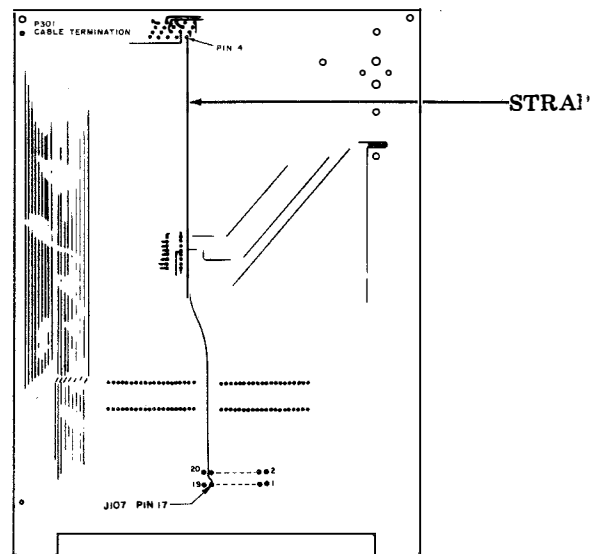

Fig. 4-Logic Card Strap
2.15 The 21" wire strap (cut to 11" length) is soldered between 2 points as shown on the bottom of the 410740 circuit card (P301-4 and J107-17) and the card is reinstalled. (See Fig. 4.)